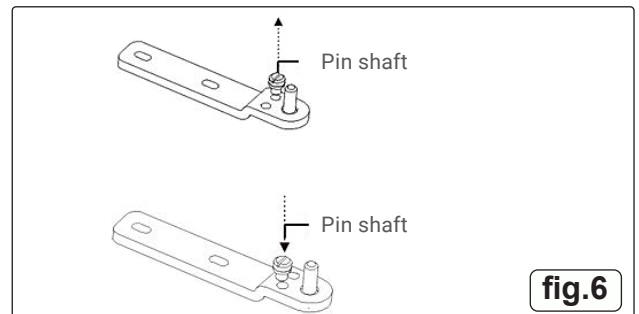

fig.6
5. Remove the washer and nut that secure the pin shaft to the right hole on the lower hinge, then remove the shaft. Fig.6
6. Insert the pin shaft into the left hole on the lower hinge, then secure the shaft with the washer and nut. Fig.6